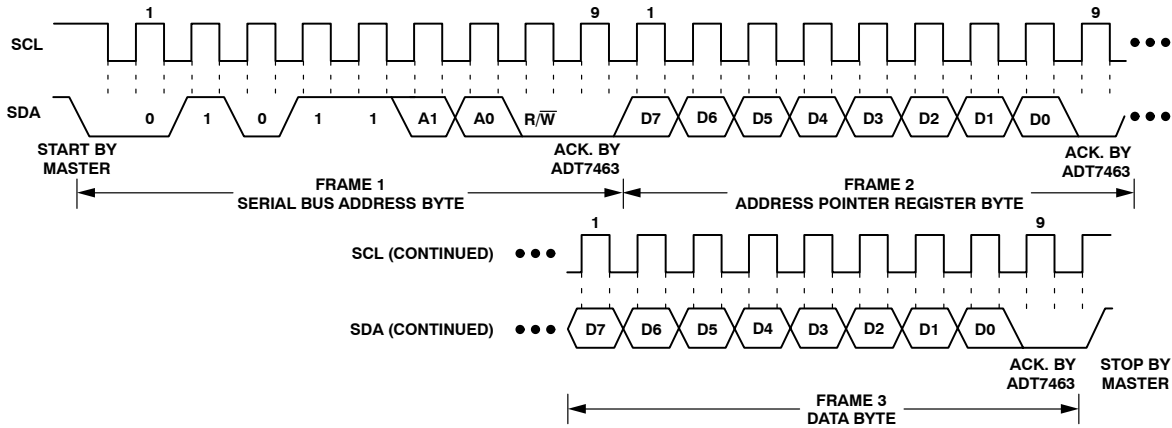

Figure 17. Writing a Register Address to the Address Pointer Register, then Writing Data to the Selected Register
This is illustrated in Figure 17. The device address is sent over the bus followed by R/\bar{W} being set to 0. This is followed by two data bytes. The first data byte is the address of the internal data register to be written to, which is stored in the address pointer register. The second data byte is the data to be written to the internal data register.
2. In Figures 17 to 19, the serial bus address is shown as the default value 01011(A1)(A0), where A1 and A0 are set by the address select mode function previously defined.